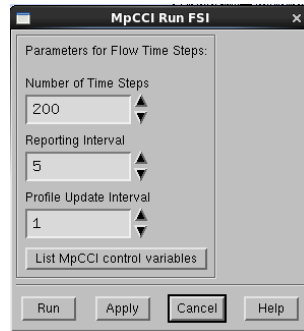

Figure 5: MpCCI Run FSI panel in FLUENT for transient implicit solution
- an implicit coupled simulation (Figure 5):